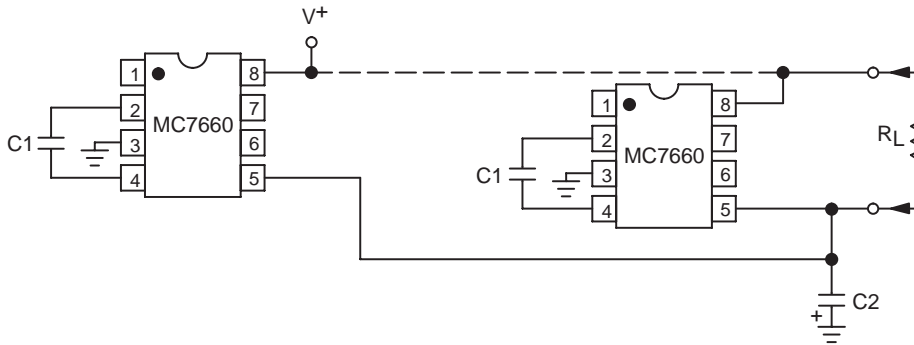
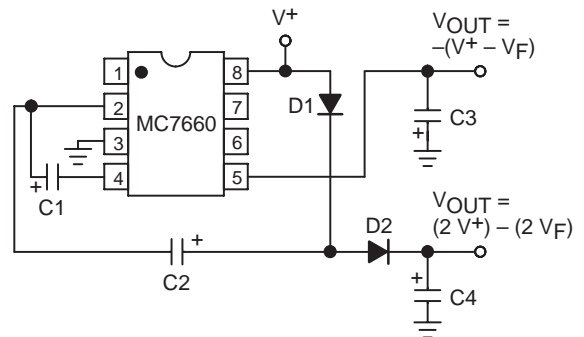
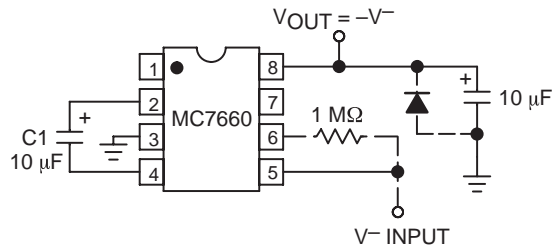
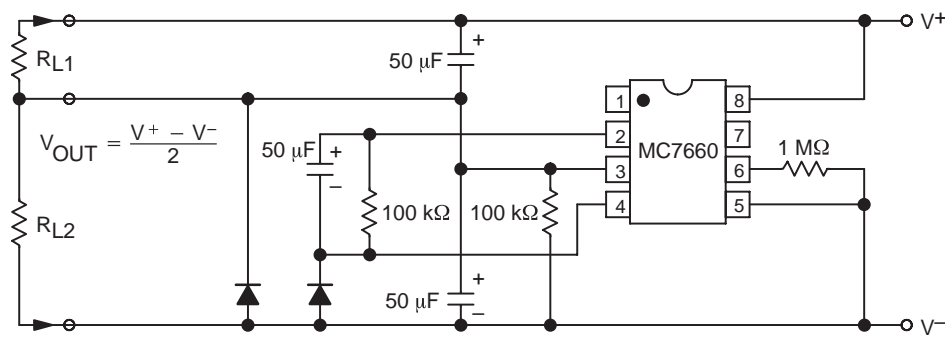

**Figure 3. Simple Negative Converter**
Figure 9. Combined Negative Converter and Positive Multiplier
Figure 10. Positive Voltage Conversion
Figure 11. Splitting a Supply in Half
Figure 3 shows typical connections to provide a negative supply where a positive supply is available. A similar scheme may be employed for supply voltages anywhere in the operating range of +1.5V to +10V, keeping in mind that pin 6 (LV) is tied to the supply negative (GND) only for supply voltages below 3.5V.
The output characteristics of the circuit in Figure 3 are those of a nearly ideal voltage source in series with 70Ω. Thus, for a load current of -10mA and a supply voltage of +5V, the output voltage would be -4.3V.
Figure 9 combines the functions shown in Figures 3 and 8 to provide negative voltage conversion and positive voltage multiplication simultaneously. This approach would be, for example, suitable for generating +9V and -5V from an existing +5V supply. In this instance, capacitors  $C_1$  and  $C_3$  perform the pump and reservoir functions, respectively, for the generation of the negative voltage, while capacitors  $C_2$  and  $C_4$  are pump and reservoir, respectively, for the multiplied positive voltage. There is a penalty in this configuration which combines both functions, however, in that the source impedances of the generated supplies will be somewhat higher due to the finite impedance of the common charge pump driver at pin 2 of the device.
Since the switches that allow the charge pumping operation are bidirectional, the charge transfer can be performed backwards as easily as forwards. Figure 10 shows a MC7660 transforming  $-5\text{V}$  to  $+5\text{V}$  (or  $+5\text{V}$  to  $+10\text{V}$ , etc.). The only problem here is that the internal clock and
switch-drive section will not operate until some positive voltage has been generated. An initial inefficient pump, as shown in Figure 9, could be used to start this circuit up, after which it will bypass the other ( $D_1$  and  $D_2$  in Figure 9 would never turn on), or else the diode and resistor shown dotted in Figure 10 can be used to "force" the internal regulator on.
The same bidirectional characteristics used in Figure 10 can also be used to split a higher supply in half, as shown in Figure 11. The combined load will be evenly shared between the two sides. Once again, a high value resistor to the LV pin ensures start-up. Because the switches share the load in